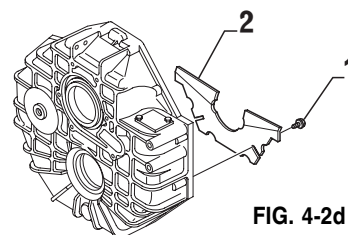

FIG. 4-2d
#### 4.2.2 Installation of baffle (Fig. 4-2d) (ZF 63 A - ZF 63)
Put one drop of Loctite 243 on the screw thread (item 1) and screw baffle plate (item 2) into the housing. After tightening the screws bend plate lugs when present over the hexagon of screws (see fig. 4-2d).